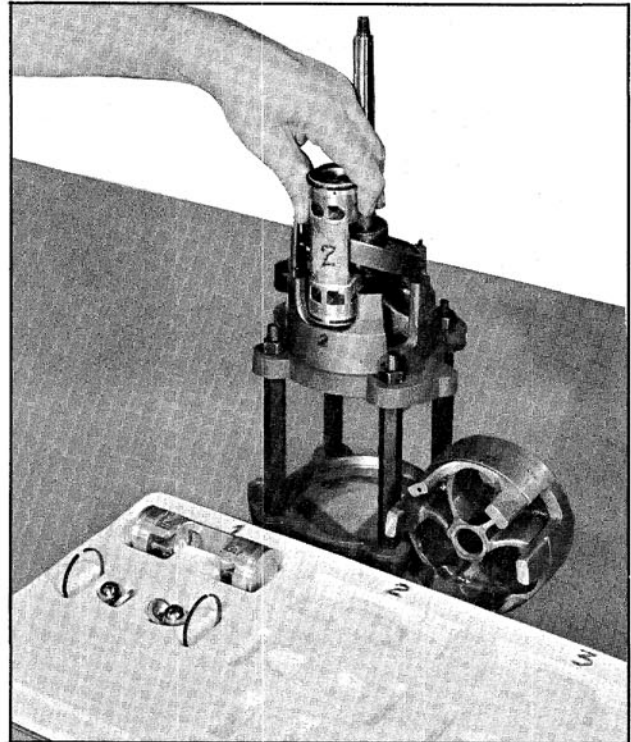

Fig. 14-116 Removing Piston
8. Repeat procedure until all pistons are removed. (Fig. 14-116)